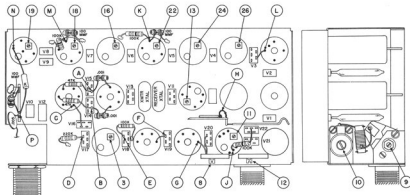

Fig. 2. Bottom and Side Views of Chassis Showing Location of Alignment Adjustments and Test Points
7. Remove the plate voltage from the final amplifiers by disconnecting wire jumper H (see Fig. 2). Then apply plate voltage to the buffer stage by connecting the milliammeter between the single pin plug and jack on models LWS and HWS or in series with the small 45V. "B" battery on model LDS.